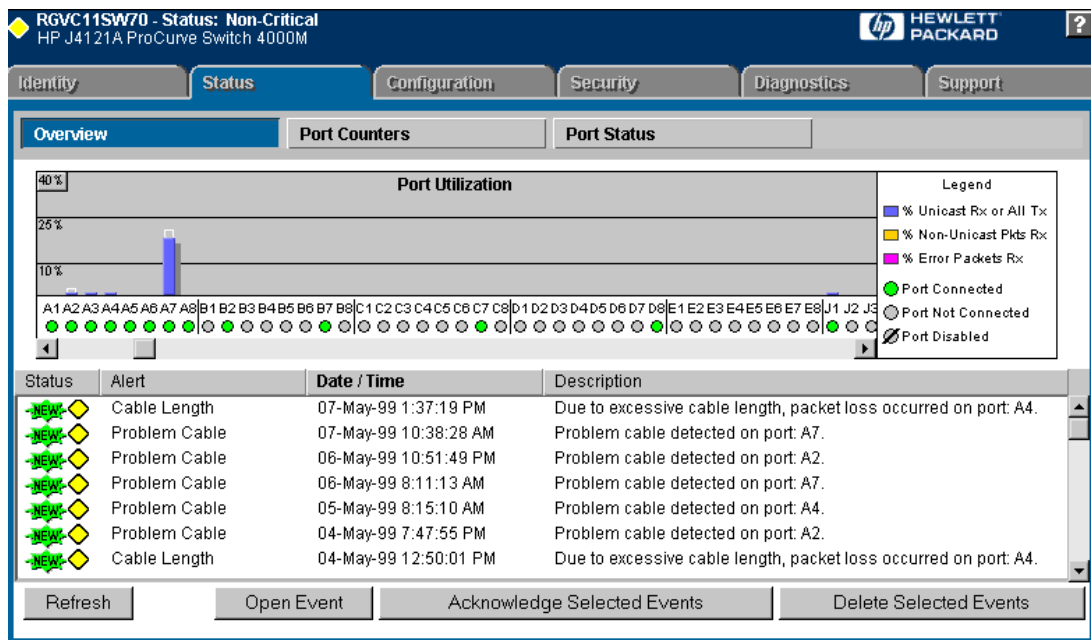

Figure 5-30. Webagent pages for an HP ProCurve Switch provide extensive configuration control and status monitoring.
- **Management Home Page** is supported by HP networking devices that use a webagent. Similar to Properties(Device View), the webagent pages provide extensive control of the device's configuration. Selecting the option opens a browser directly to the device from NNM-NT, NNM-UX, or NNM-Solaris consoles. (Figure 5-30)